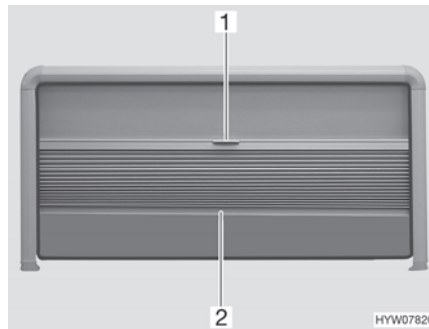

Fig. 13 Roman shade and insect screen (hinged window)
- Hold the Roman shade in the centre of the bottom rod (Fig. 13,2) and carefully draw it downwards.
- Hold the bottom rod (Fig. 13,2) of the Roman shade in the centre and carefully slide the Roman shade upwards.
- Pull insect screen at the handle (Fig. 13,1) downwards.
- Move insect screen at the handle (Fig. 13,1) fully upwards.